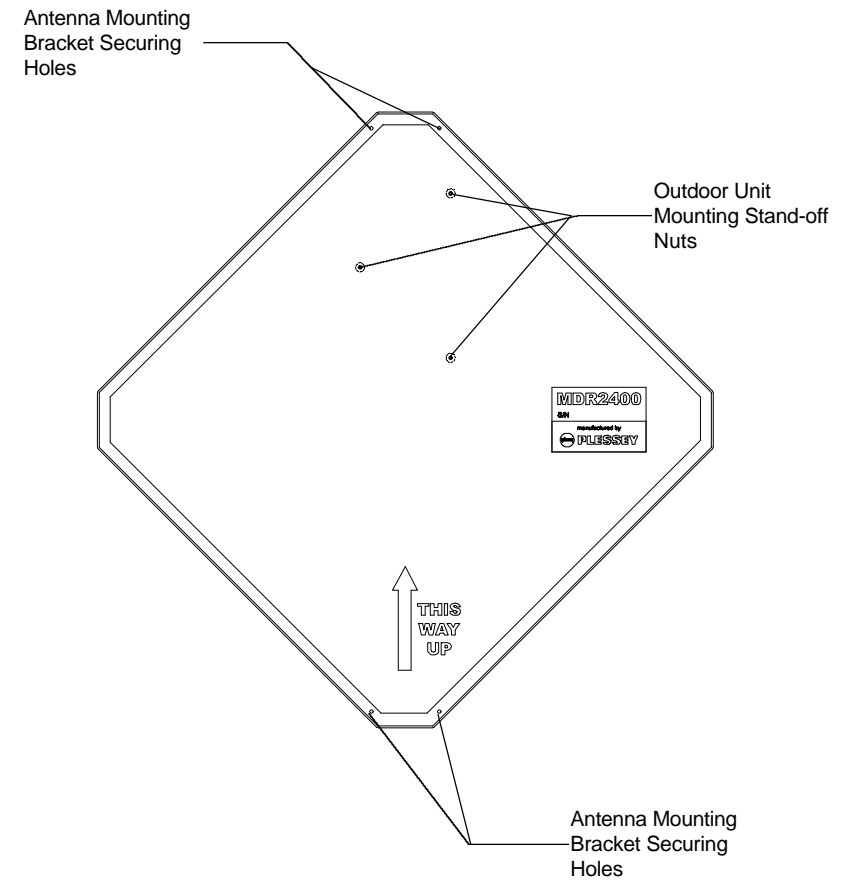
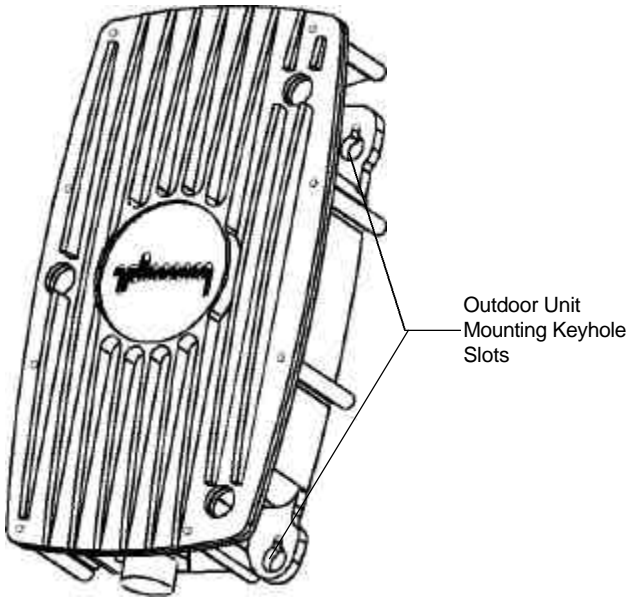

Figure 6. μLink -C Antenna.
Figure 7. μLink Outdoor Unit.
1.	Secure the C-shaped mounting bracket to the Antenna using the two securing screws and bolts (see Figure 6).
See Figure 6 and Figure 7.
1.	Loosen the three OU securing stand-off nuts located on the Antenna (see Figure 6).
2.	Position the OU on the stand-off nuts through the three (3) key hole slots on the OU (see Figure 7).